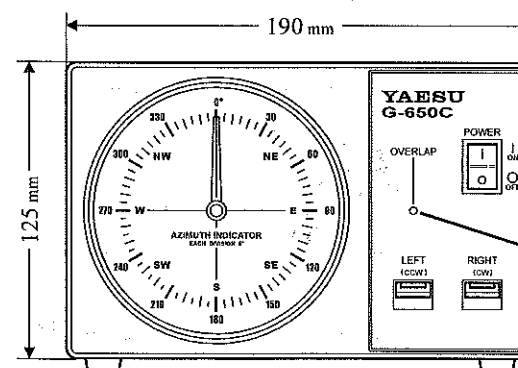

Figure 3
9. Hold down the right rotate (RIGHT) switch again and rotate to the right. Check that the overlap LED (see Figure 3) illuminates when the rotation exceeds approximately 360°.